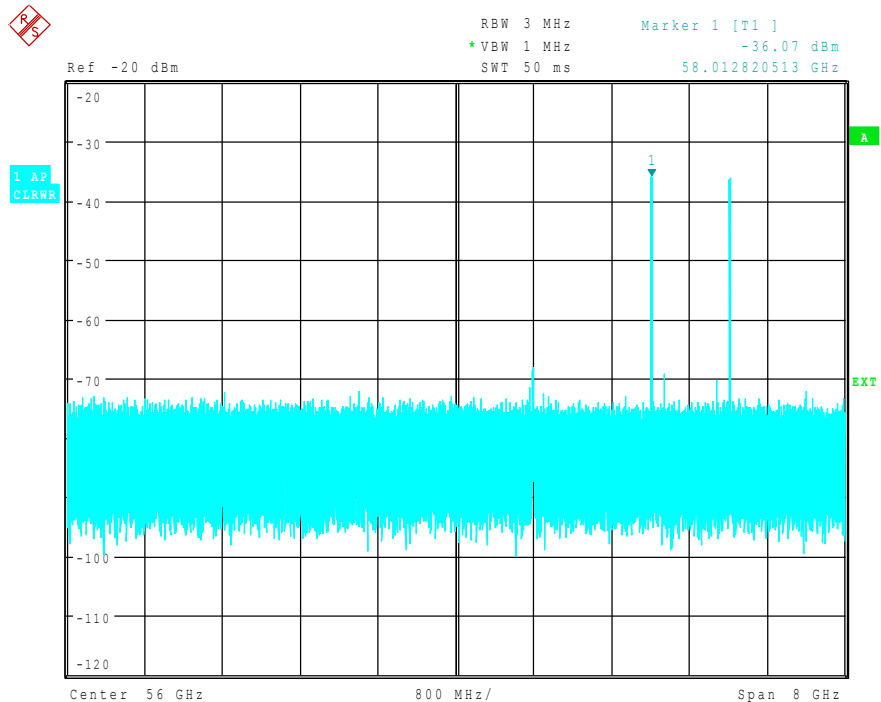

Fig. 4-40 Spectrum at the multiplier output recorded with an external mixer
- Reduce video bandwidth with [ **SWEEP COUPLING** : VIDEO BW MANUAL : **1 MHz** ] A correct signal identification using *AUTO ID* is thus possible (see also "Remarks concerning Signal Identification with AUTO ID"). The display shown in Fig. 4-40 is obtained.
The spectrum represented in Fig. 4-40 contains the input signal and also a large number of unwanted mixer products. Two functions are provided by the Spectrum Analyzer to identify real input signals. The implemented methods are described in section “Signal Identification” on page 4.291. The *AUTO ID* function is used in this example.